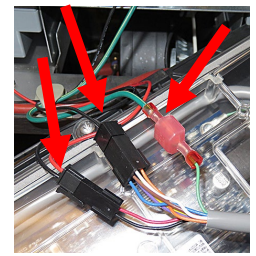

Figure 16
9. Disconnect the ground cable, the locator cable, the speaker cable and the USB cable from the far-left controller (if applicable) (see Figure 16). Tuck the single wire locator cable out of the way, as it is NOT used with the new controller.